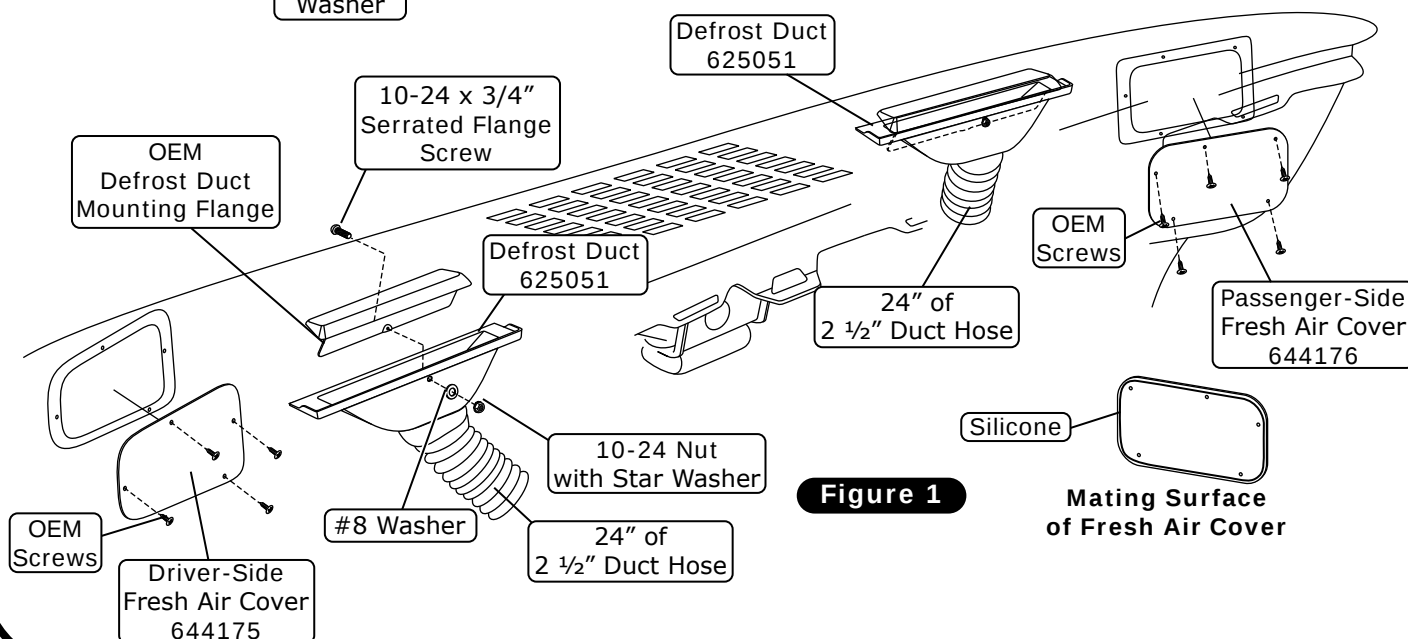

Figure 1
- Install the (2) defrost ducts onto the OEM defrost duct mounting flanges under the dash using (2) 10-24 x 3/4" screws and (2) 10-24 nuts with star washers (See Photos 1, 2 and Figure 1, below).